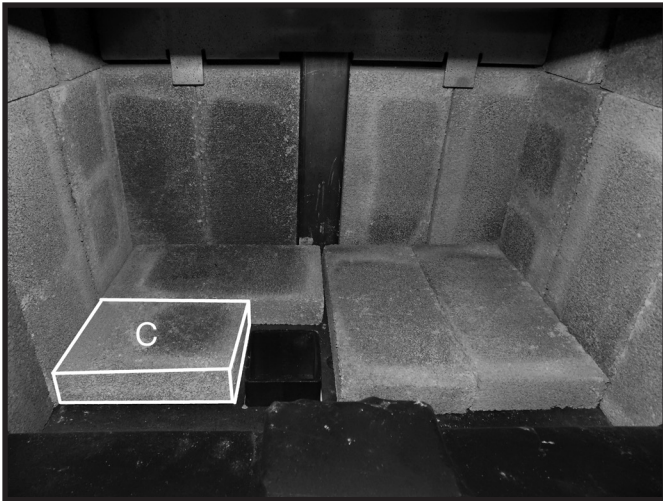
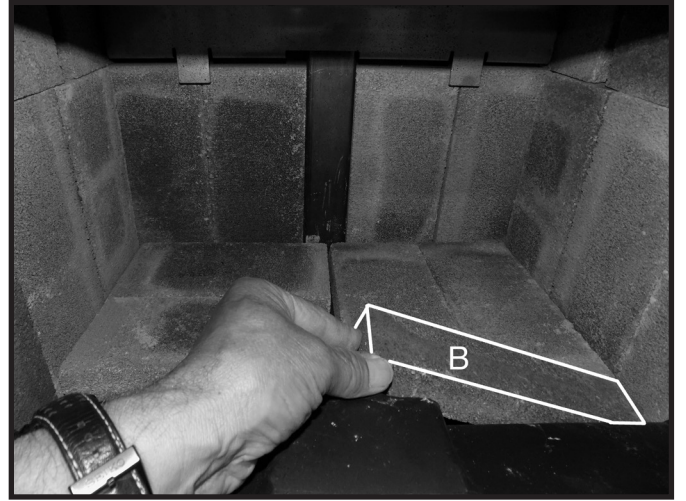

Figure 28: Fourth floor brick in place.
Figure 29: Narrow floor brick being positioned.
- Place the "C" firebrick so that it sits beside the ash dump, against the lefthand side wall and the "A" firebrick located directly behind the ash dump (Figure 28).
10. Place the two remaining "B" firebricks in front of the other floor firebricks to complete firebrick installation (Figure 28 and Figure 29).